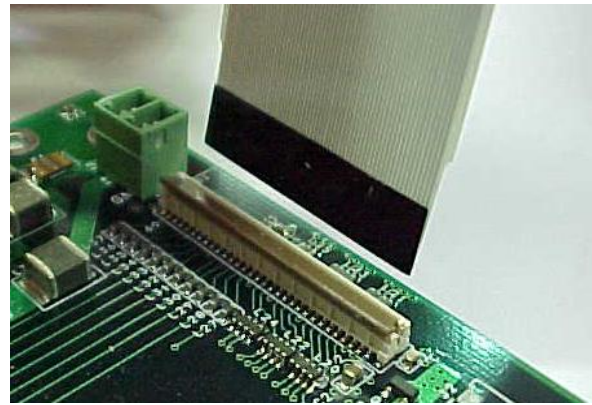

Figure 7.7 Display Cable Insertion
3. Rotate the cam to the closed (down) position to lock in place (see Figure 7.7).